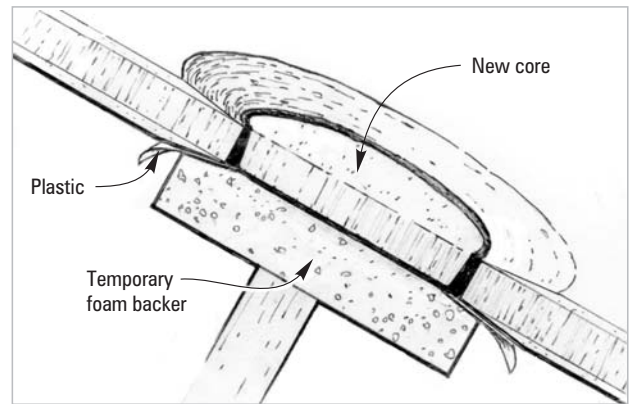

Figure 5-14 Brace a temporary backing against the back of the hole to support the new core.
2. Provide a temporary backing to support the core while bonding it in position and while laminating the new outer skin patch. Cut a piece of low-density insulating foam slightly larger than the hole opening. Bevel the edges of the foam so the face of the foam is flush with the inner skin/core bond line. Cover the foam with 4-6 mil plastic and brace it in position against the inner edge of the hole. If the foam is too stiff to conform to a curved panel shape when braced from the back, sand the foam to a shape that matches the panel curve (*Figure 5-14*).